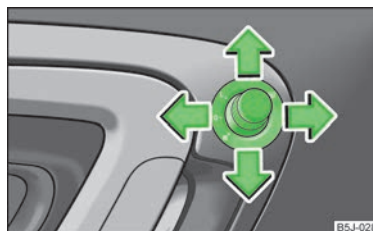

Fig. 34
- Place the rotary knob into the position  » Fig. 34.
- Place the rotary knob into the position **L** » Fig. 34. The movement of the mirror surface is identical to the movement of the rotary knob.
- Place the rotary knob into the position **R** » Fig. 34. The movement of the mirror surface is identical to the movement of the rotary knob.